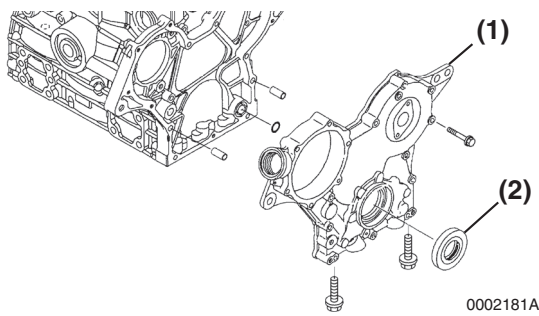

Figure 6-61
1. Remove the seal (**Figure 6-61, (2)**) from the gear case cover (**Figure 6-61, (1)**).
2. Apply a continuous bead of ThreeBond Liquid Gasket No. 1212, Yanmar Part No. 977770-01212 to the outside diameter of a new oil seal (**Figure 6-61, (2)**).